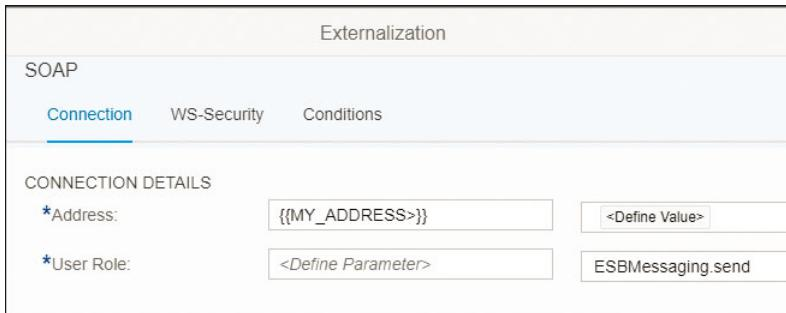
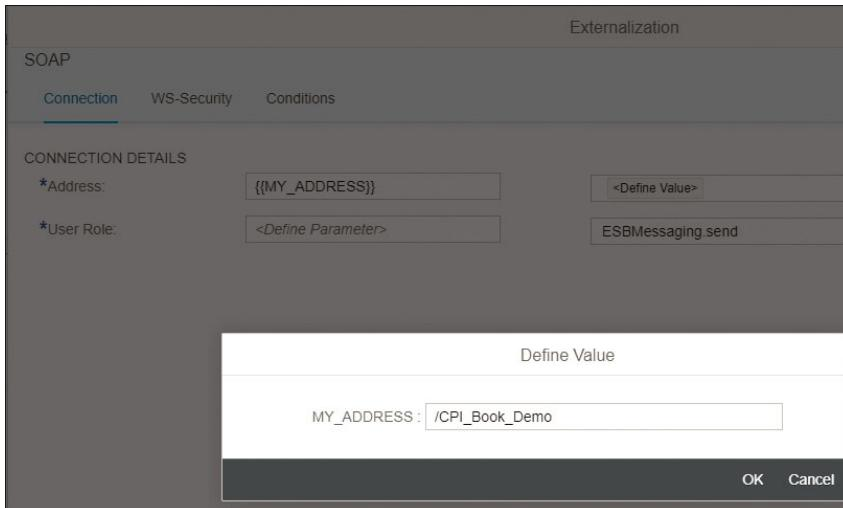

Figure 4.31 Creating a New Parameter in the Externalization Editor
Figure 4.32 Defining a Value for an Externalized Parameter
3. A new screen pops up with the **Externalization** editor, as shown in Figure 4.31. Note that the **Externalization** editor presents all possible configurations of the component that is selected. Let's now create a new parameter on the **Address** field. For
4. The parameter is defined using the format {{<parameter>}}. In our case, let's add a new parameter with the name {{MY_ADDRESS}}, as shown in Figure 4.31.
5. The next step is to create a value for the externalized parameter by clicking on the <Define Value> tag shown in Figure 4.31. The **Define Value** option appears as soon as you've created an externalizable parameter. You then get a new popup screen with the possibility to define a value for the {{MY_ADDRESS}} externalized parameter (see Figure 4.32). Fill in /CPI_Book_Demo as its new value.